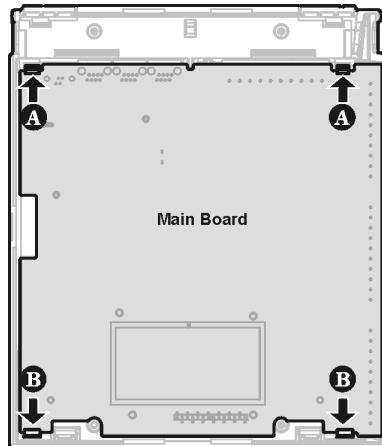

Figure 25
Press the two small tabs (A) at the top of the Main board (shown in Figure 25) to release the top of the Main board. Then press the two small tabs at the bottom of the Main board (B) to release the bottom of the Main board. Lift the Main board out of the housing.